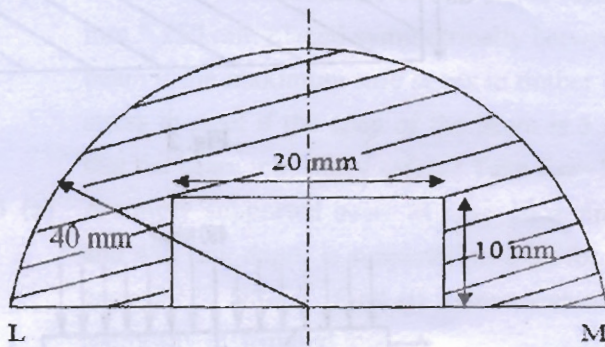

Fig. 9
- (c)** Find the moment of inertia of the section as shown in **Figure 9** about LM. 03